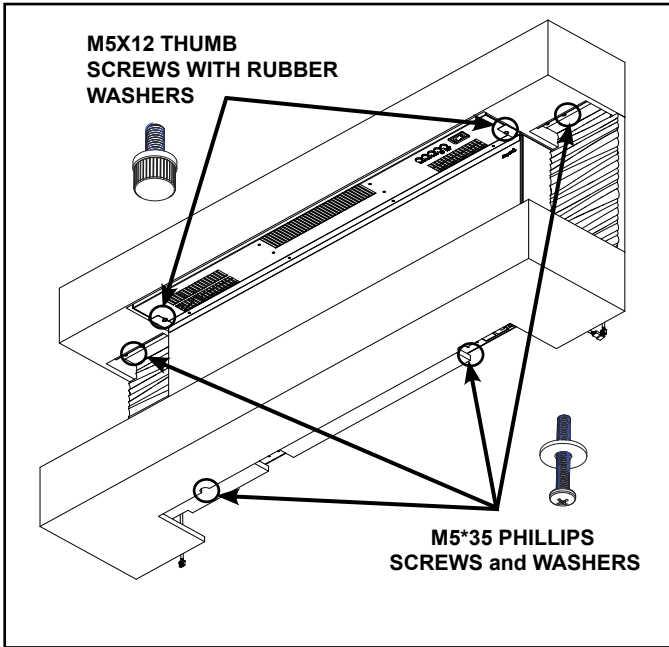

Figure 10
- Fasten the bottom mantel section to the appliance with two (2) M5*35 Phillips screws. See Figure 10.
7. Secure the top mantel to the appliance using two (2) M5X12 thumb screws with rubber washers. See Figure 10.
8. Secure the side panels using two (2) provided M5*35 screws.